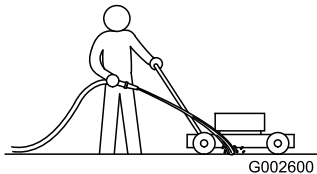

Figure 22
3. With the engine running and the blade engaged, spray a stream of water in front of the **right**, rear wheel (Figure 22).